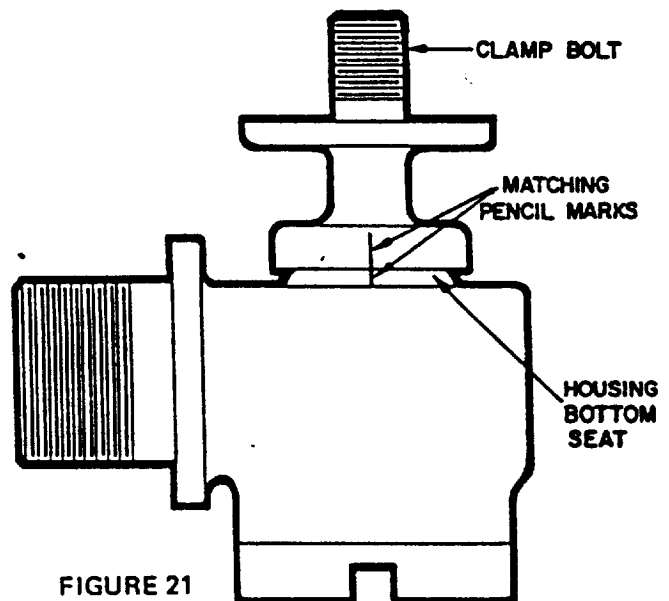

FIGURE 21
- d. Place pencil or ink mark on side of clamp bolt and a matching mark on side of housing bottom seat (see Fig. 21).
- g. Rest partially assembled valve on top of seat (1).
- h. Place diaphragm (two thicknesses – 11) between upper (thicker – 10) and lower (thinner – 12) diaphragm plates, aligning diaphragm holes (in particular the hole for water passage through the cored inlet). Install new clamp bolt gasket (8).
- i. Place relief valve spring (9) on housing.
- j. Center diaphragm (11) and plates (10, 12) over clamp bolt (7). Press down on lower diaphragm plate to compress spring, and replace clamp bolt nut (13). Tighten firmly with wrench.